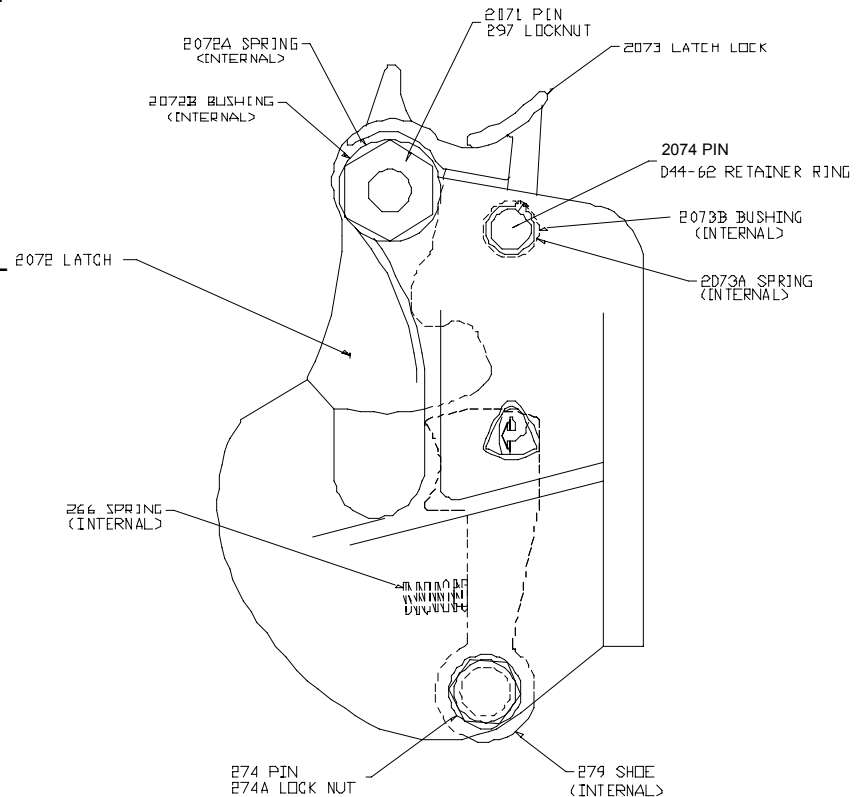

Figure 5
- Referring to Figure 5, insert #2073A spring into upper left side of body and slide 2074 pin partially through body and spring (make certain that hook on #2073A spring is positioned to the right).